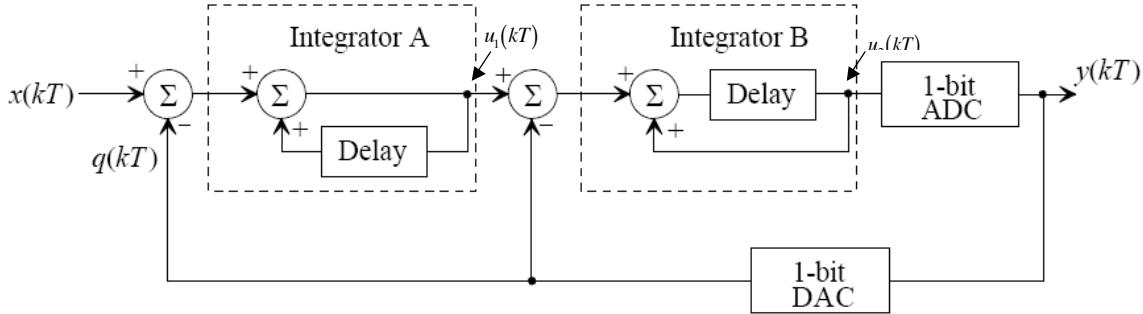

Figure 29.49 A second-order, sigma-delta modulator.
29.38 Prove that the output of the second-order $\Sigma\Delta$ modulator shown in Fig. 29.49 is,